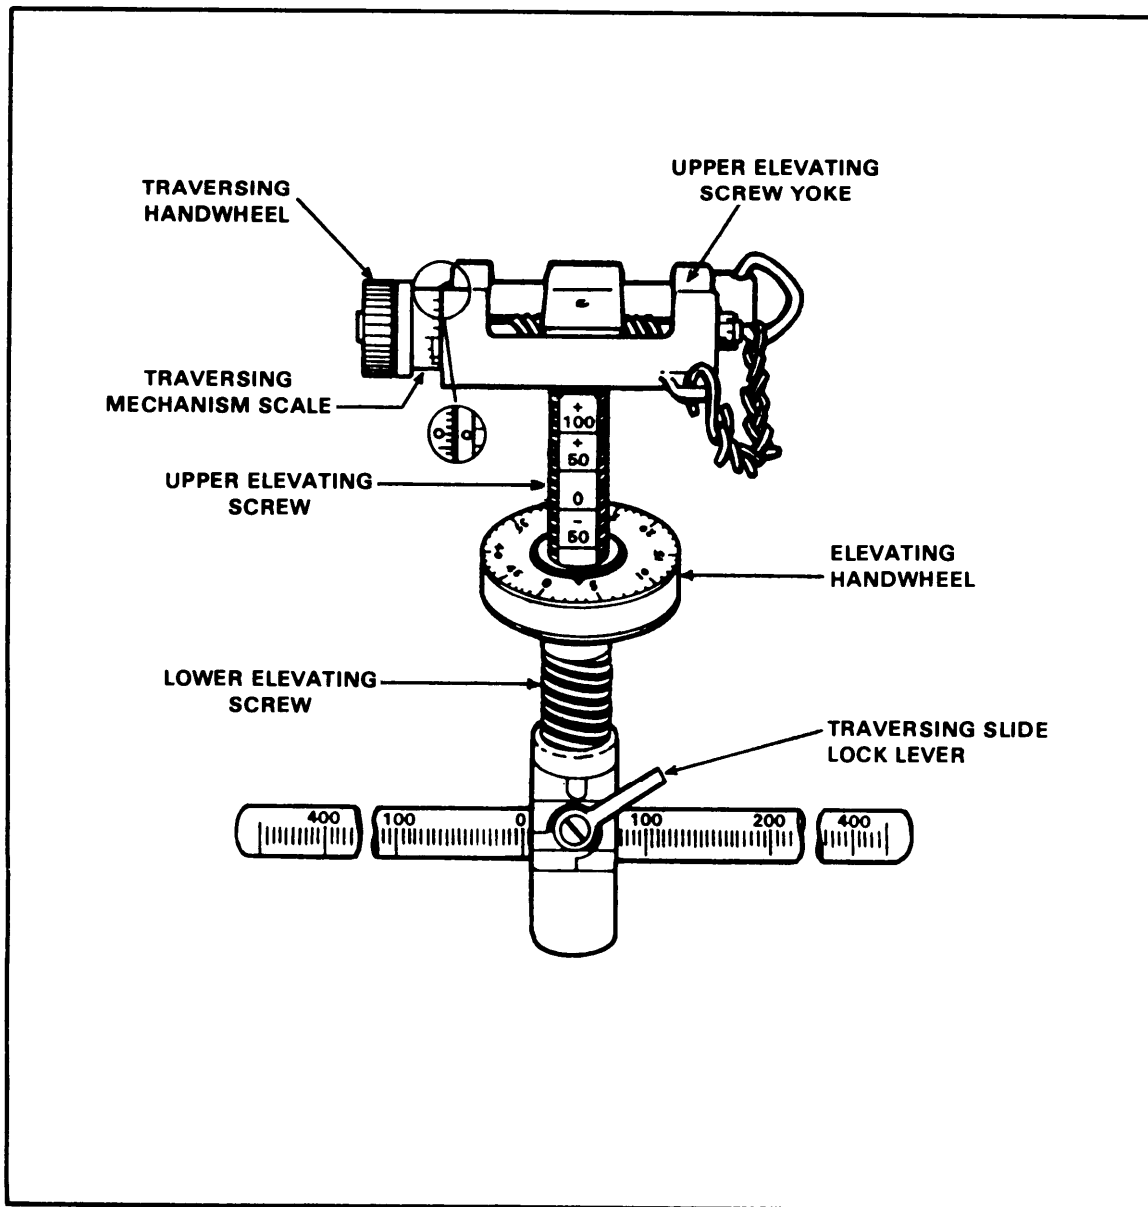

Figure 3-4. T&E mechanism.
e. Attach the T&E mechanism (Figure 3-4):
(1) Center the elevating handwheel between the upper and lower elevating screws.
(2) Center the traversing handwheel on the upper elevating screw yoke.